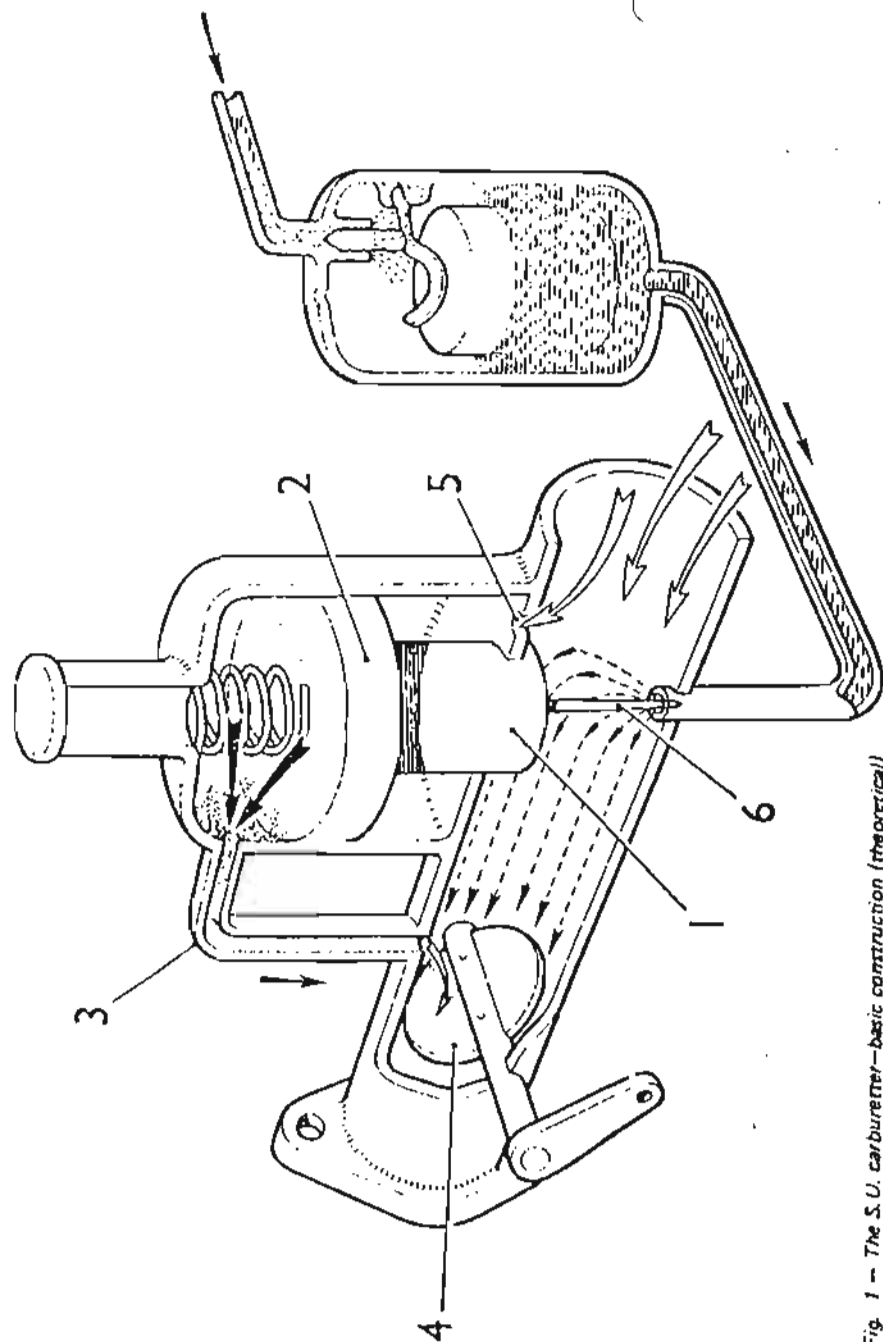

Fig. 1 - The S.U. carburettor—basic construction (theoretical)
Take a look at Fig. 1. Here we have the basic layout of the SU carburettor. The engine is situated to the left of the butterfly. When the engine is running, there will be a large depression existing on the left hand side of the butterfly simply because the butterfly is restricting the flow of air to the engine as it would do under idling conditions. Because the butterfly is slightly open (it will have to be to supply the engine with air to idle) part of this depression is connected to the right hand side of the butterfly. From the drawing, it can also be seen that a hole in the suction chamber (3) connects the right hand side of the butterfly with the suction chamber above the body of the carburettor. The underside of the large diameter of the piston (2) is connected to normal atmospheric pressure by a hole 5. Now, when we open the throttle slightly (4), the depression on the left hand side of the butterfly, will be allowed to communicate to a greater degree with the slight vacuum existing on the right hand side of it. This, in turn, will draw air out of the bell chamber from above the piston. We now have an unequal pressure existing across the piston. Underneath the large piston diameter is normal air pressure, whilst above it, it is lower than normal air pressure. Hence this pressure differential will cause the piston to rise. In so doing, it will pull the tapered needle (6) out of the jet, thus allowing more air and more petrol to pass into the carburettor and thus to the engine. If we open the throttle still further and, via (3) suck even more air out of the bell chamber, then the piston will rise even further. This will allow more air into the engine and also, since the needle comes out of the jet further, allow more petrol, thus keeping the mixture ratio in correct proportion. If the throttle is opened fully while the engine is at low rpm, the suction will not be particularly large, due to the fact that the engine's air requirement will be low while it is at low rpm. This means that the piston will only open far enough to satisfy the engine's demand for air and no more. As revs rise, so the piston will rise. By this system, it can be seen that not only does the carburettor adjust itself for throttle demand, i.e. how much rpm a driver requires at the particular instant, but also, it adjusts itself to engine load condition. To look at it another way, we could say that whatever the throttle butterfly does, the piston in the carburettor lifts only sufficiently to supply the air required by the engine for its particular needs of the moment.
Again, looking at Fig. 1, we can see that the further the needle comes out of the jet, the greater the area that is available for fuel to pass. Now, although this is the means of governing the rate of fuel introduced into the air, it does depend on one other factor, this being the initial level of the fuel in the jet. If the fuel is a long way down the jet before we start the engine, we can see that quite a bit of suction will be needed just to draw the fuel up to the top of the jet before it starts being emitted into the air. On the other hand, if the fuel is only just below the jet before the engine is started, then when it is started, only a small amount of suction will cause fuel to flow out of the jet. From this, then, we can see that at least in the initial stages, the level of the fuel in the jet is important, as it will effect the mixture ratio that the carburettor delivers. In practice the fuel in a carburettor main jet is set such that it is between an eighth and a quarter of an inch below it's point of discharge. The pressure drop needed to draw the fuel up to the lip of the jet under these circumstances will be between two-thirds and one and a third ounces per square inch.